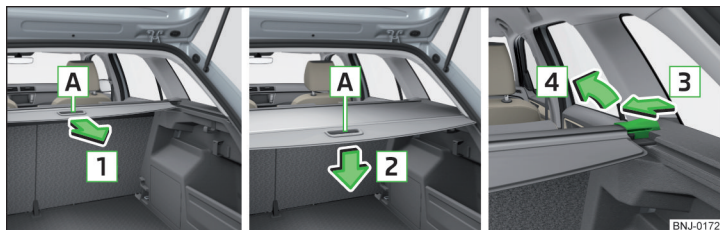

Fig. 97 Roll-up cover: Pulling/ rolling up / removing
- > To **Herausziehen**, grasp the cover at grip-point **A** and pull it out in the direction of the arrow **1** until it audibly clicks into place» Fig. 97.
- > To the **install** remove the foldable luggage compartment cover » Fig. 97 on page 79 or the rear seat backrests » page 63.